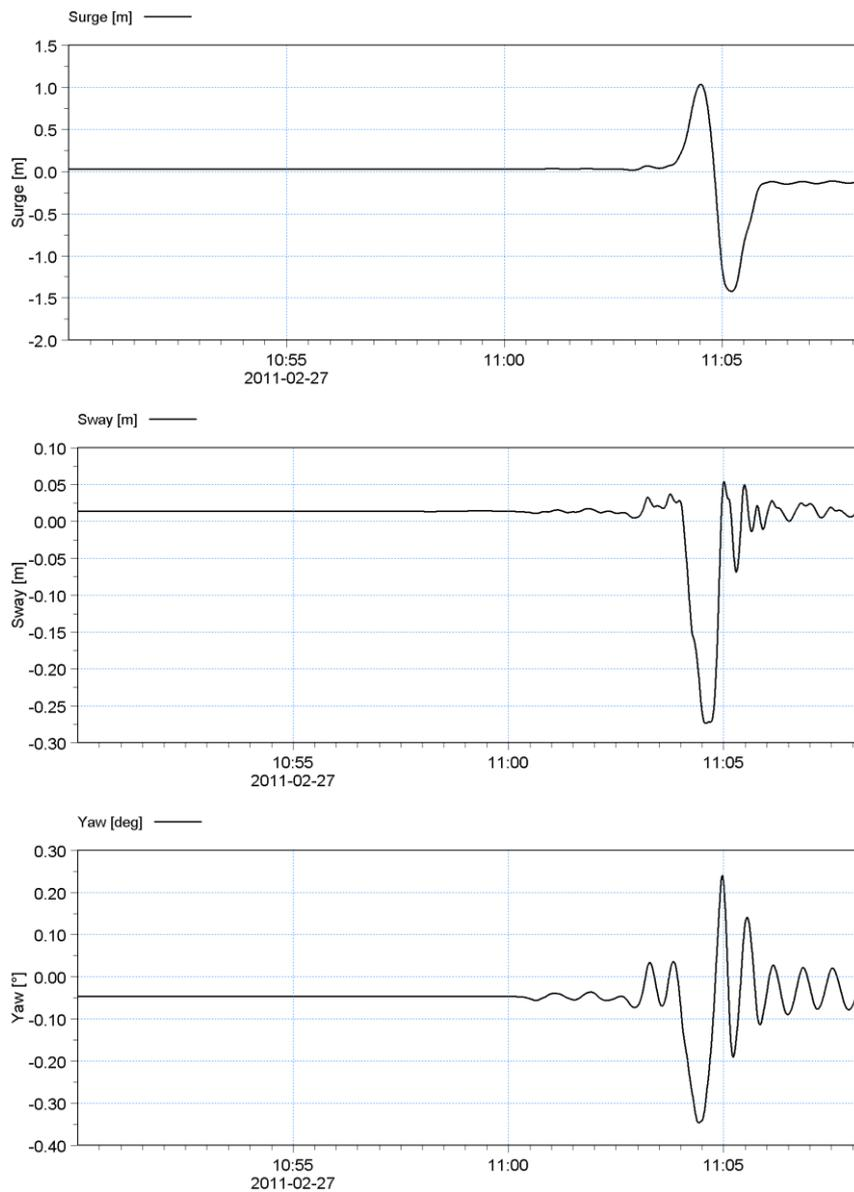

Figure 3-24 Passing vessel induced moored vessel motions - surge, sway and yaw
14. Open the newly created *Vessel1\_motions.dfs0* file and plot the *Surge, Sway and Yaw motions*. You should see that the vessel is stable until around 11:05 when the passing vessel generated displacement waves arrive at the berth and induce a large surge motion of the moored vessel. Motions in the other degrees of freedom are relatively small. Your plotted surge, sway and yaw motions should appear as shown in Figure 3-24.